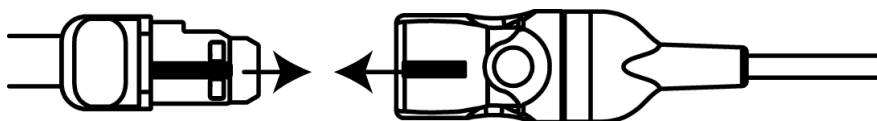

Figure 12-13 Connecting a sensor to the preamp cable
- 3 Position the sensor connector in front of the sensor cable connector and align the marks on each (figure 12-13).